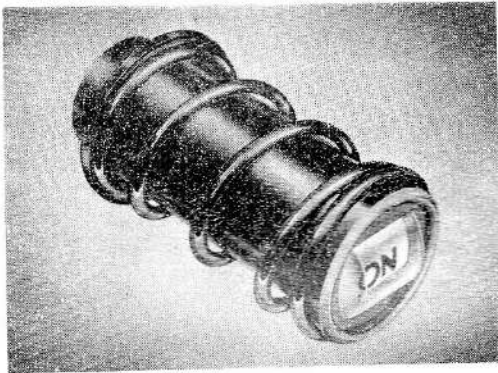
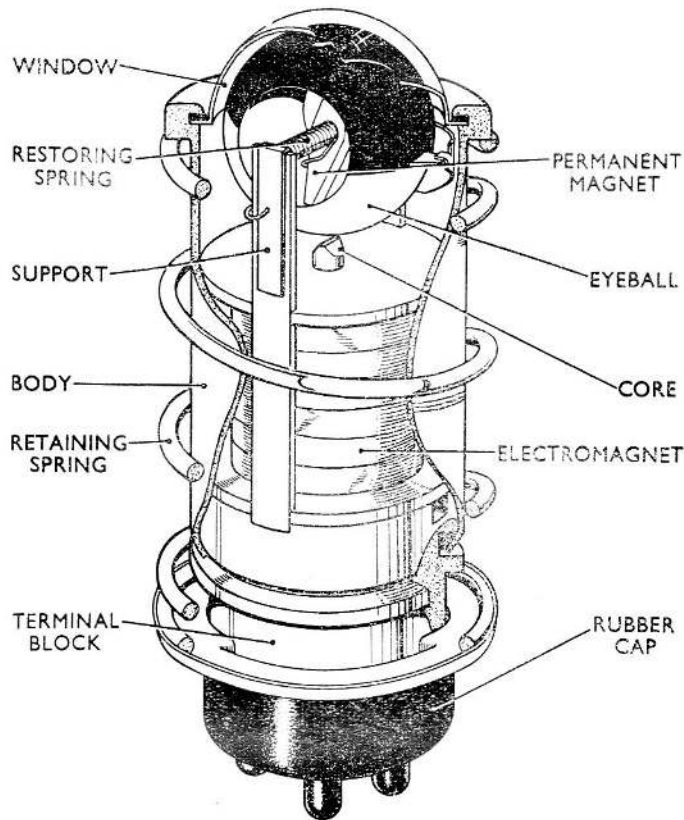

Fig. 1. Typical drum type indicator
Fig. 2. Sectional view of two-position indicator
5. A view of a two position drum type indicator is shown in fig. 1 and a view showing the construction of a two-position eyeball indicator in fig. 2.
12. The coded indicating element is seen through a plastic window as a pattern (App. 1, fig. 1). A translucent window, which is fitted to the indicator 7CZ 143684 is specially shaped. The other end of the indicator is closed by a moulded terminal block which is detachable on indicator 7CZ 74109.